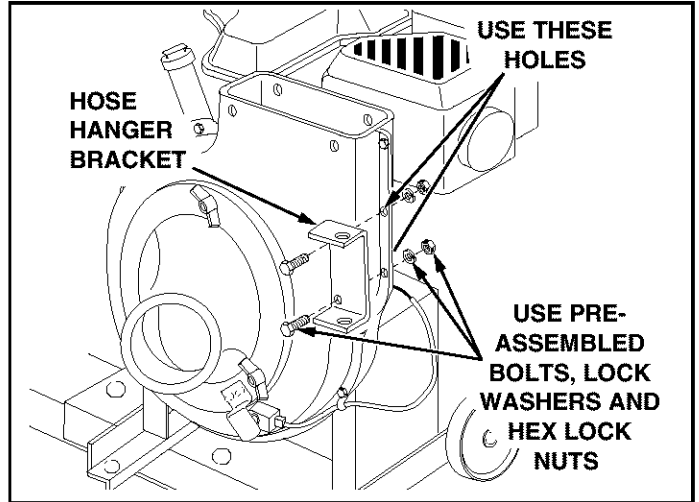

FIGURE 16
- Remove the hex bolts, lock washers and hex lock nuts from the two holes in the impeller housing as shown in figure 16. Assemble the hose hanger bracket to the two holes using the bolts, lock washers and lock nuts which you removed.